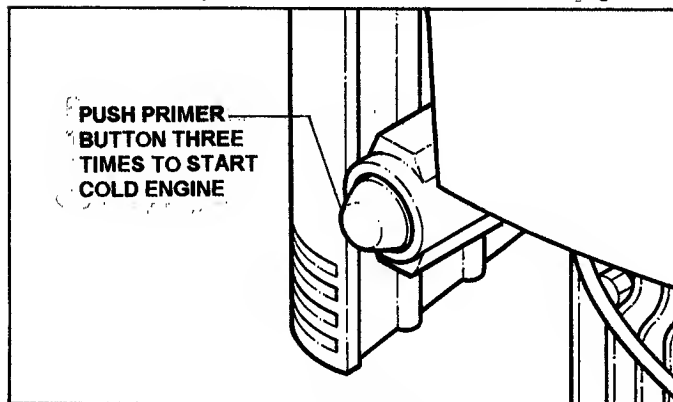

FIGURE 2.1
- 2. Push primer button three times. See Figure 2.1
- 2. Push primer button three times. See Figure 2.1.